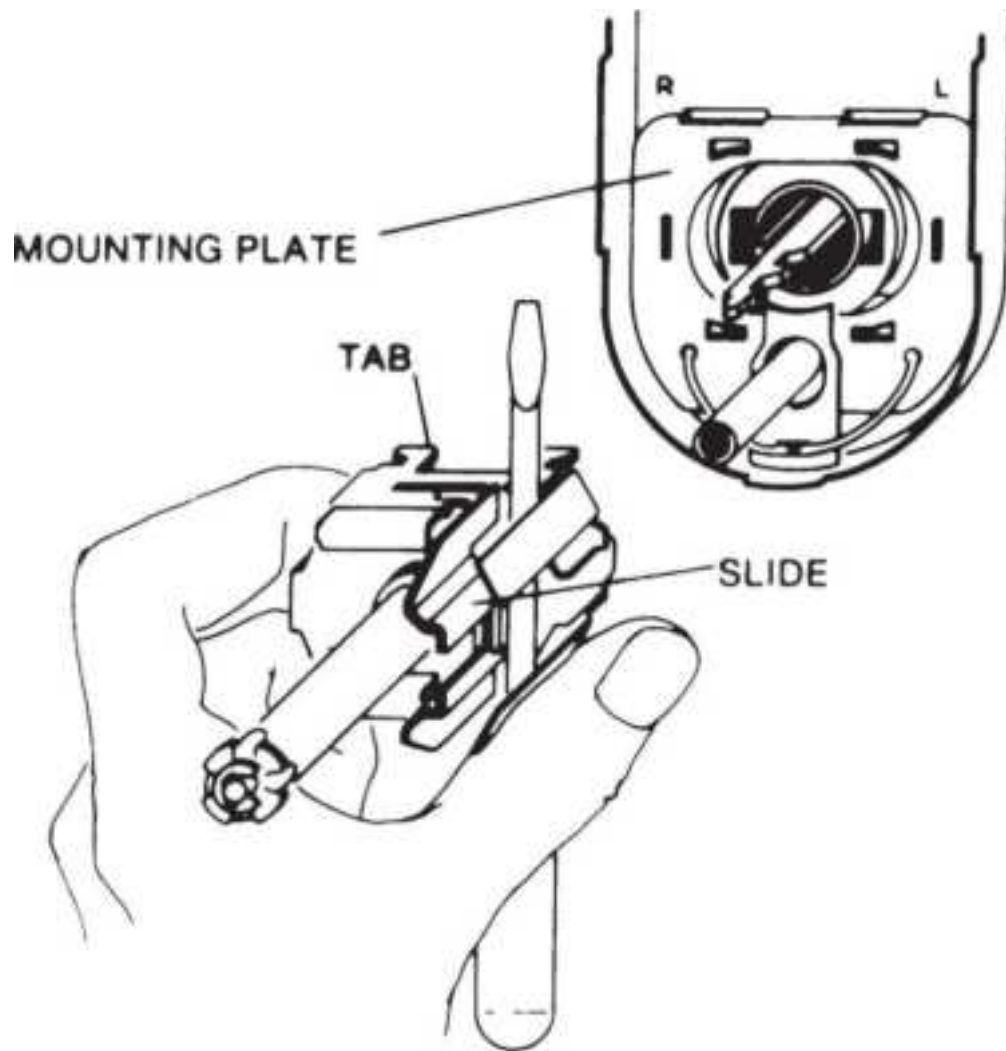

**Figure 13.76** Changing hand, Step 7.
7. Rotate the slide assembly 180°. With the slide compressed, insert the lugs into slots on the mounting plate (Fig. 13.76 ).